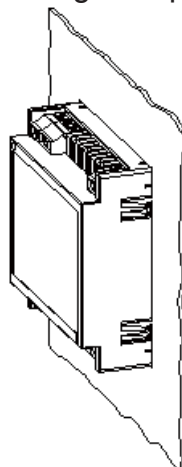

Figure 3: Fully insert the device
3.- Fully insert the device and fasten it by using the spring (**Figure 3**)